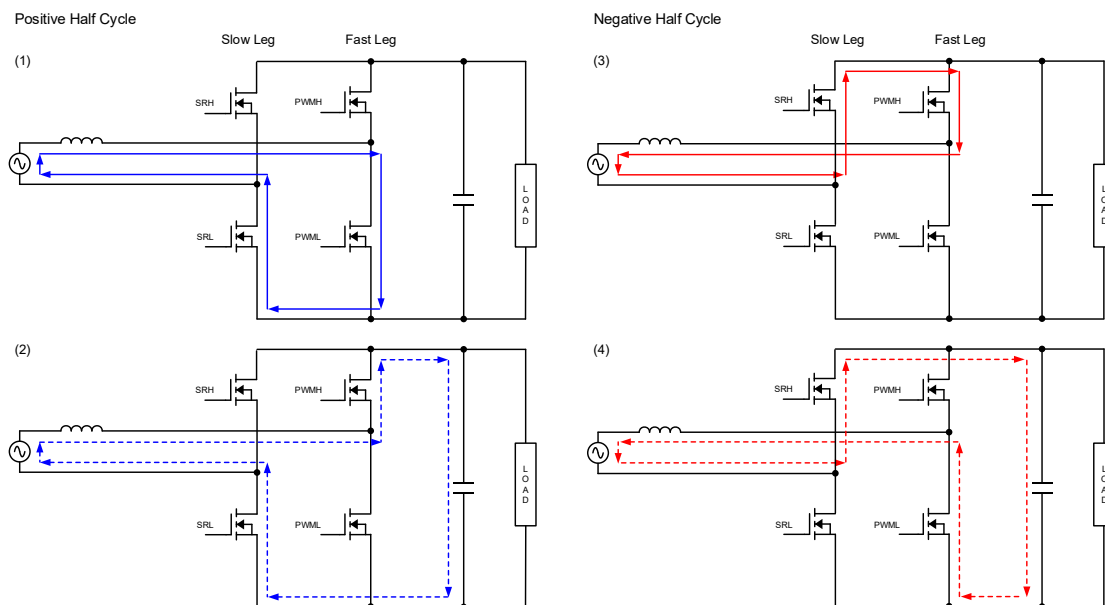

Figure 1. Cycle operation
Operation of the TPPFC during the positive and negative half line cycles is shown in Figure 1.
PWML toggles high turning on the low side Fast Leg device, allowing current to charge and store energy in the inductor, as shown (1) in Figure 1.
When the PWML signal toggles low the inductor current diverts through the high side Fast Leg switch, transferring energy from the inductor to the load, as shown (2) in Figure 1.